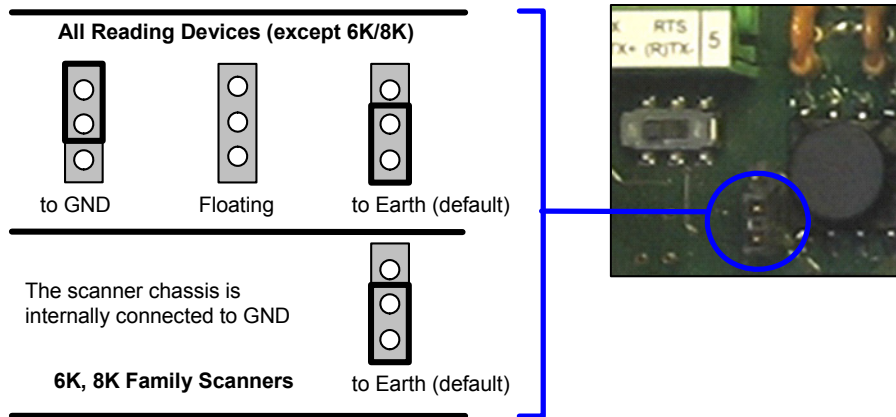

Figure 6 – Chassis Grounding
- *Connect the reading device chassis to earth ground through the jumper, (default setting, see Figure 6).*
The data source chassis grounding method can be selected by positioning a jumper (see Figure 6). In this way the reading device chassis can be connected to earth ground (only if pin Earth is connected to a good earth ground). For all reading devices except 6K/8K, the chassis can alternatively be connected to the power supply ground signal (GND) or it can be left floating but, in this case, the jumper must be removed. For 6K or 8K scanners the chassis is internally connected to GND.